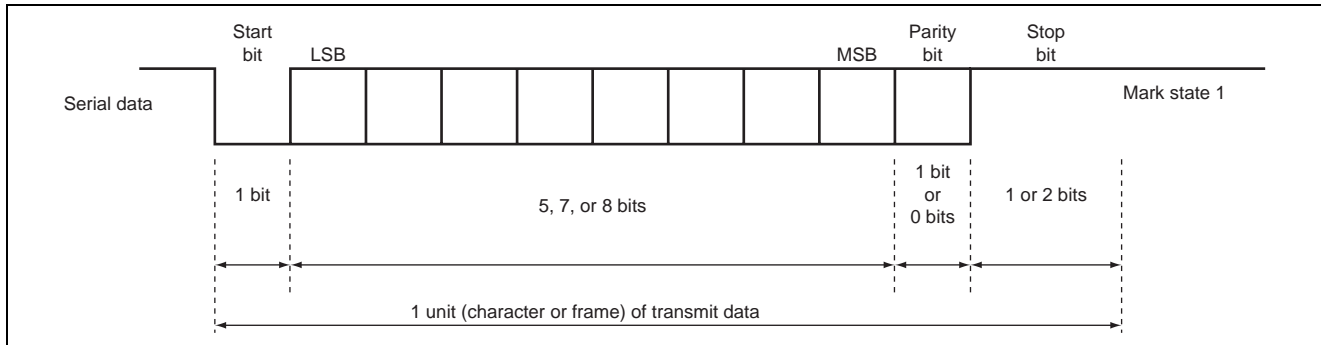

Figure 2 Data Format for Serial Data Transmission in the Asynchronous Mode
- Figure 2 shows the data format for serial data transmission in the asynchronous mode.